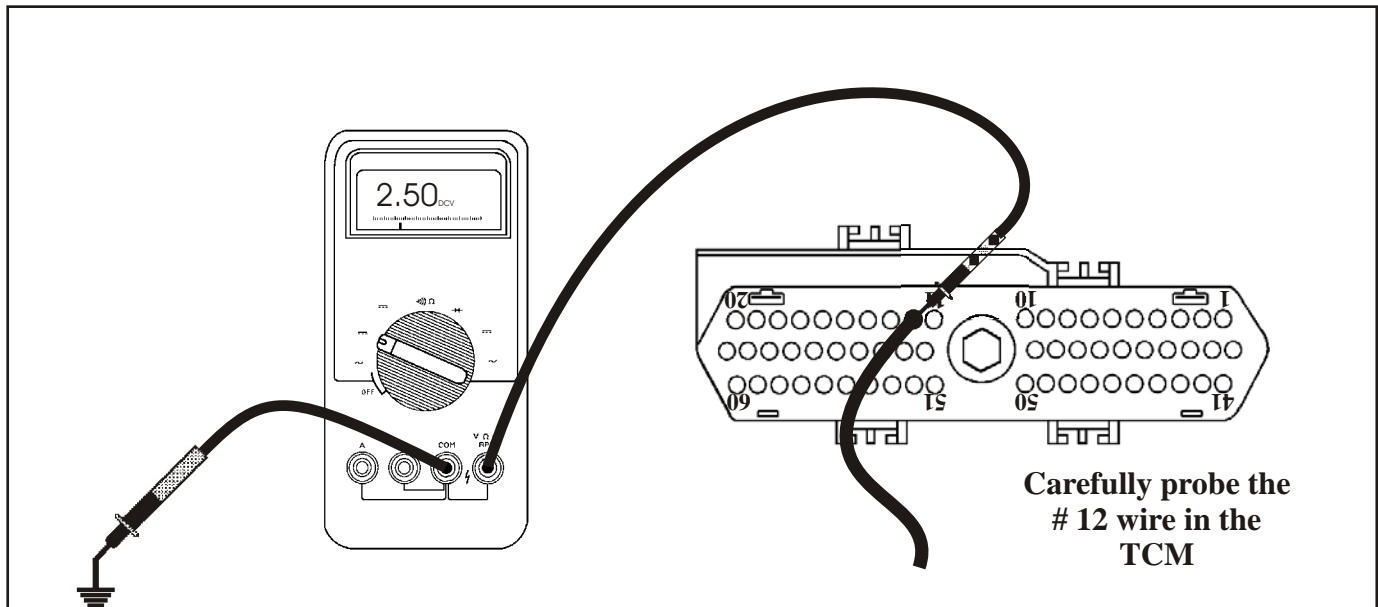

Figure 43
- Compare the TPS voltage seen through a scanner display to a volt meter attached to the number 12 TPS signal wire at the TCM (See Figure 43). With the engine off, place the ignition to the “ON” position. At closed throttle, approximately .50 to .78 volts should be observed. As the throttle is opened the voltage should increase proportionally. When wide open throttle is reached, approximately 3.8 to 4.0 volts should be seen. **NOTE: Both readings should be relatively the same however, the TPS voltage change observed through the scanner will be slightly delayed to that seen on the volt meter.** If the voltage change observed through the volt meter is correct while the scanner provides unusual and incorrect readings, the TCM will need to be replaced. If both the scanner and volt meter reveal a no volt reading, a fixed volt reading, an erratic or incorrect volt reading, go to the next step.